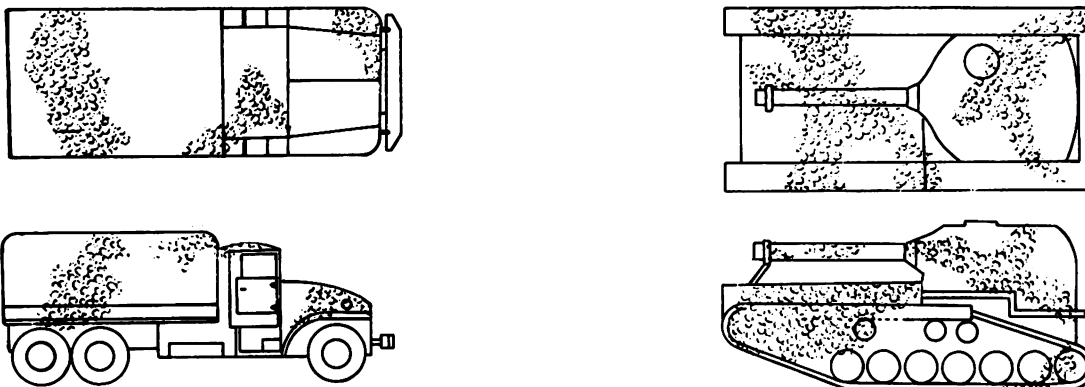

Figure 1.
1. Use pattern paint, mud, etc., to cover shiny areas of equipment in irregular patterns so the item will blend with the color of natural surroundings (figure 1).